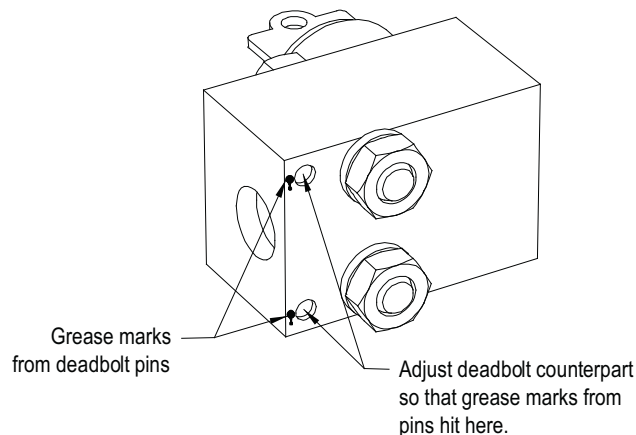

Figure 30 - Deadbolt assembly mounted to door
4. Bolt the cabinet door closed so the pins on the dead bolt counterpart make contact with the deadbolt assembly. Doing so should leave two marks of torque sealant or grease on the assembly where the pins made contact (see Figure 30 on page 54).